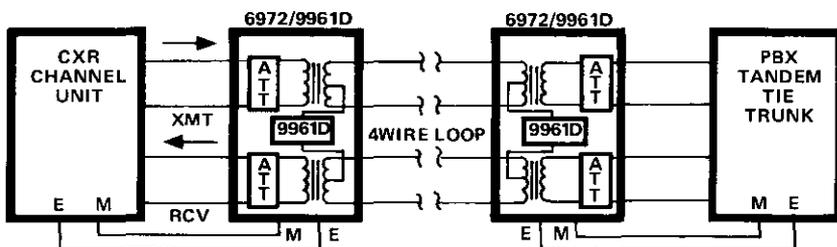

figure 3. Typical application of 6972 equipped with 9961D
2.09 The 9961D Signaling Converter DX subassembly, when mounted on the 6972 module, provides extended E-and-M-lead (DX) signaling, i.e., conversion from E-and-M-lead signaling to DX signaling, over a 4wire facility (figure 3). Maximum range of the 9961D is 5000 ohms loop resistance. The 9961D may be switch-optional for either DX1 or DX2 operation. In the DX1 mode, M-lead signals are input to the module and E-lead signals are output. In the DX2 mode, M-lead signals are output, and E-lead signals are input.